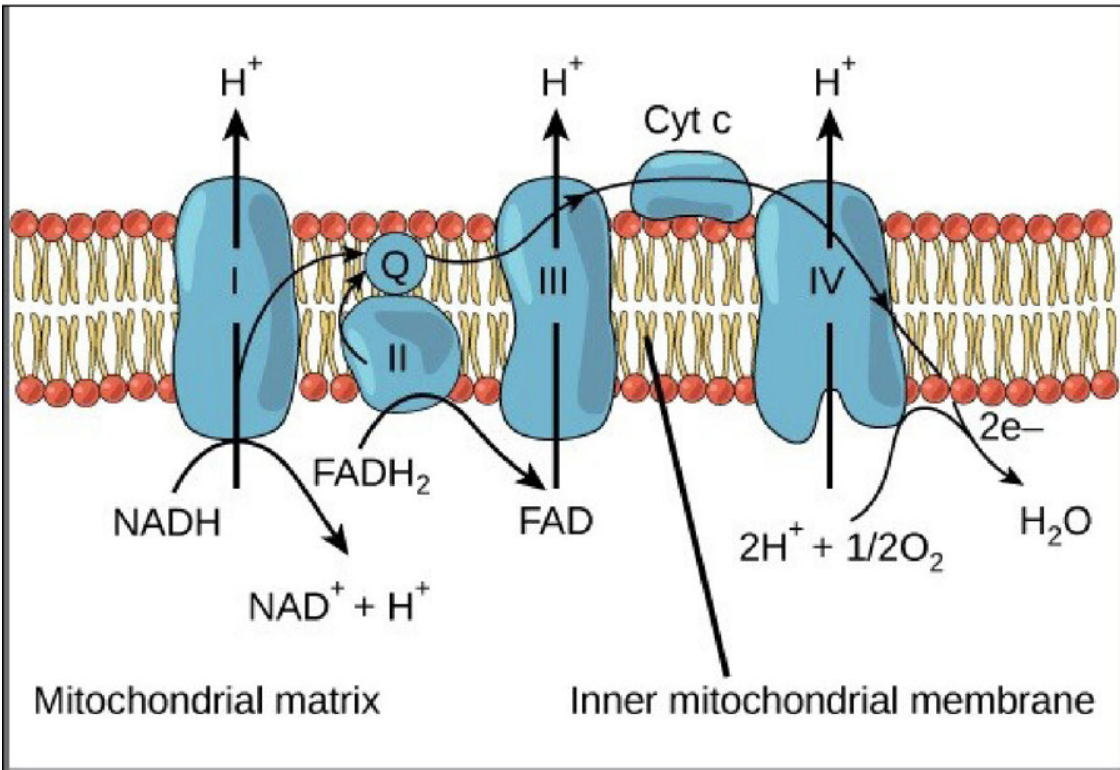

Figure 13 – Electron Transport Chain
A total of 32 units of ATP are created in this transport chain. Combine this with the 2 units from the Krebs cycle itself and the 2 units from glycolysis and the total is 38 ATP units. As stated earlier, if thought about in terms of a currency, one can now see why a yeast cell will follow this energy enriching pathway. A yeast cell has a maternal desire to propagate and the energy gained in the Krebs cycle will be used to help create new progeny (daughter) cells. Figure 13 illustrates the Electron Transport Chain which physically takes place at the inner surface of the mitochondrion. (12)